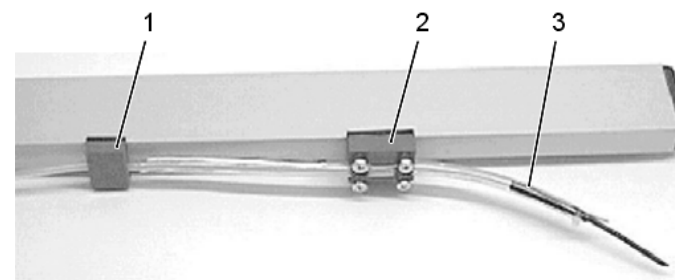
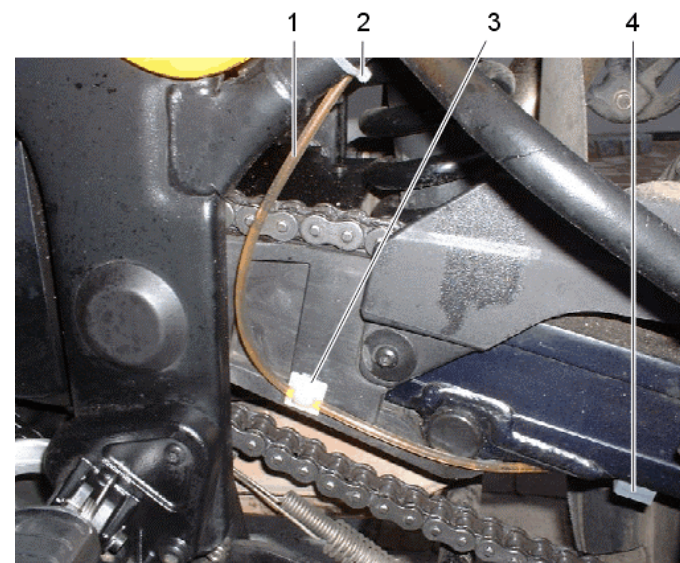

Figure 8 Fixing the Retainer Blocks to the Swing Arm (Example for demonstration)
Figure 10 Fitting the Oil Tube (Routing the Oil Tube upwards)
2. Fix the mounting block (2, Figure 8) to the underside of the swing arm using instant glue. The mounting block secures the tube endpiece which dispenses the lubricant. Therefore, to ensure the mechanical stability of the tube endpiece, it must be placed as close as possible to the sprocket.
4. In the same way fix the two routing blocks to the underside of the swing arm. The first routing block (1, Figure 8) should be mounted close to the tube endpiece (8 mm dia.) to retain the 5 mm tube. The second routing block (4, Figure 10) should be mounted on the forward part of the swing arm.
3. Route the oil tube such that it will not obstruct the chain while riding. The oil tube must not be under tension (Figure 10).